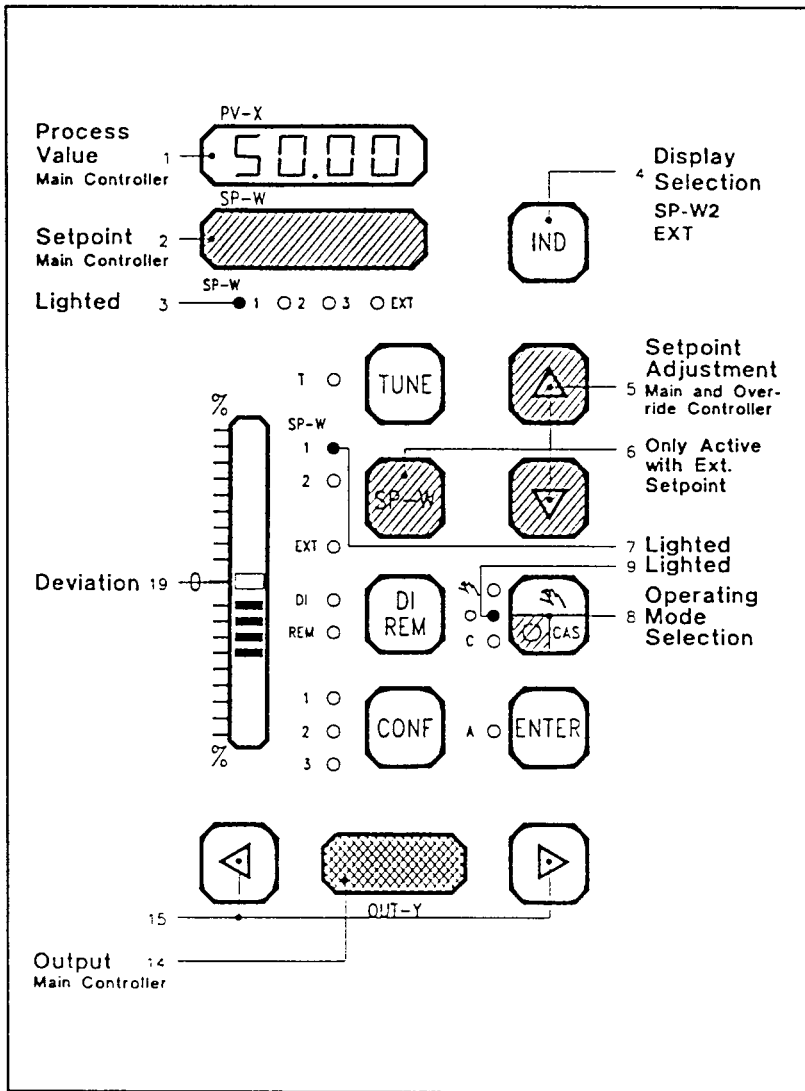

Fig. 60 "Automatic I" Mode, Functions of Keys and Displays
Following change-over to “**automatic**” mode with mode key (8), override control is initiated, whereby the main controller is active initially. The front panel displays the following image (Fig. 60):